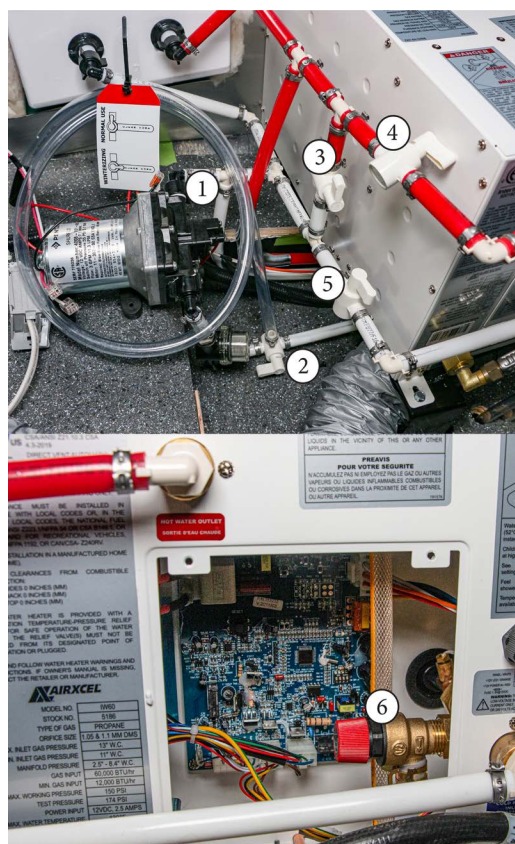

Figure 8.1 - water heater (located roadside under bench)
11. As shown in Figure 8.1 on the previous page, close the water heater inlet and outlet valves. Make sure the water heater bypass valve is open. It is not recommended to use air pressure on the water heater for winterization.